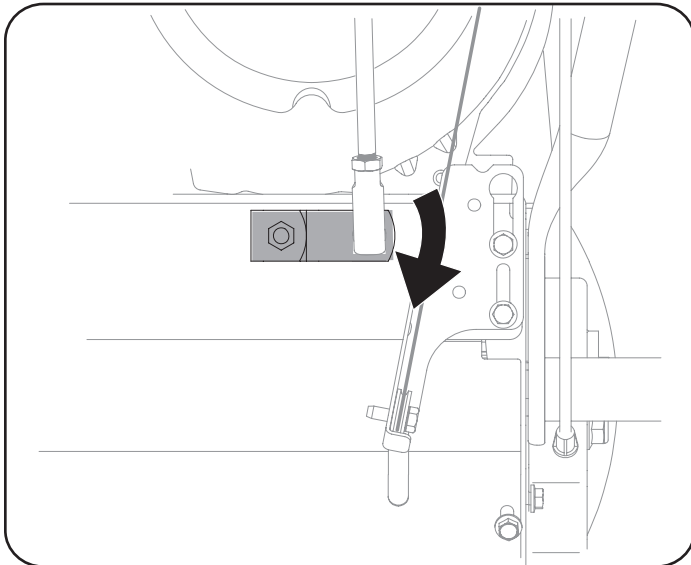

Figure 32
9. Make sure the shift lever on the back of the transmission is rotated downward to the full extent of its rotation. See Figure 32.